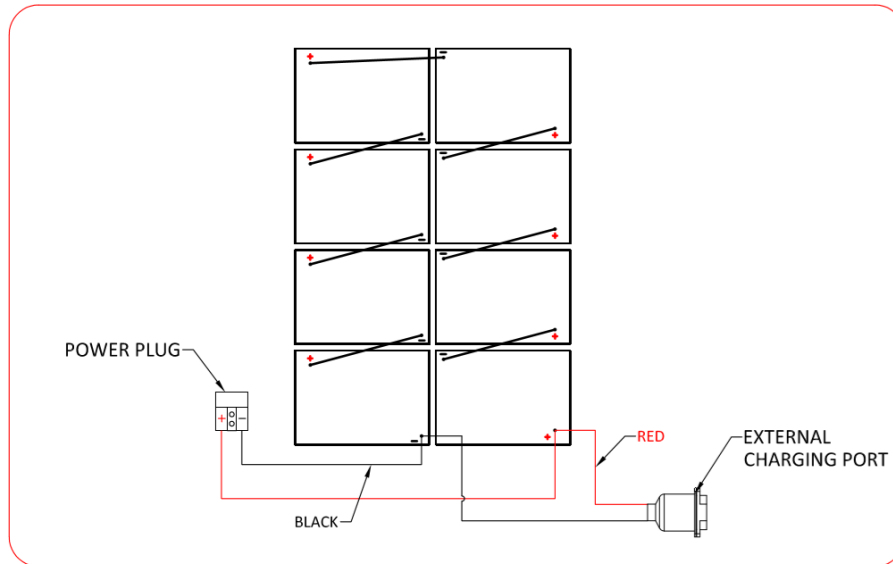

Fig. 24
2. Install the battery upright and not upside down as required by the drawing. After the installation, check the requirements of the installation drawing, check whether the positive and negative poles of each battery are correct, and then connect all batteries in the whole group. The battery wiring diagram is shown in Fig. 24.